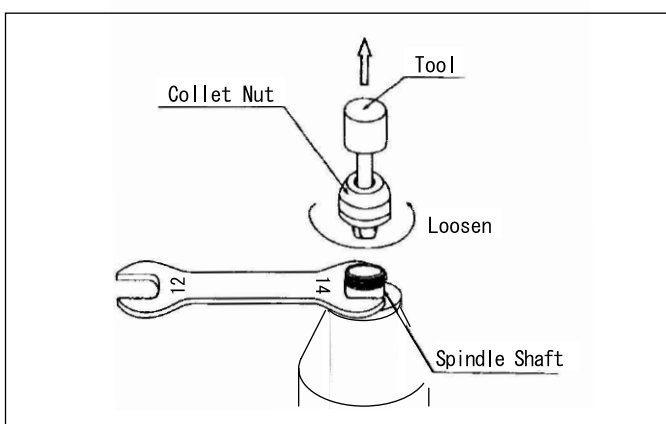

Fig 15
- 1) Follow the Changing Tools procedure described above; keep turning the collet nut with the tool mounted until the collet chuck comes out of the motor ④. (Fig 15)